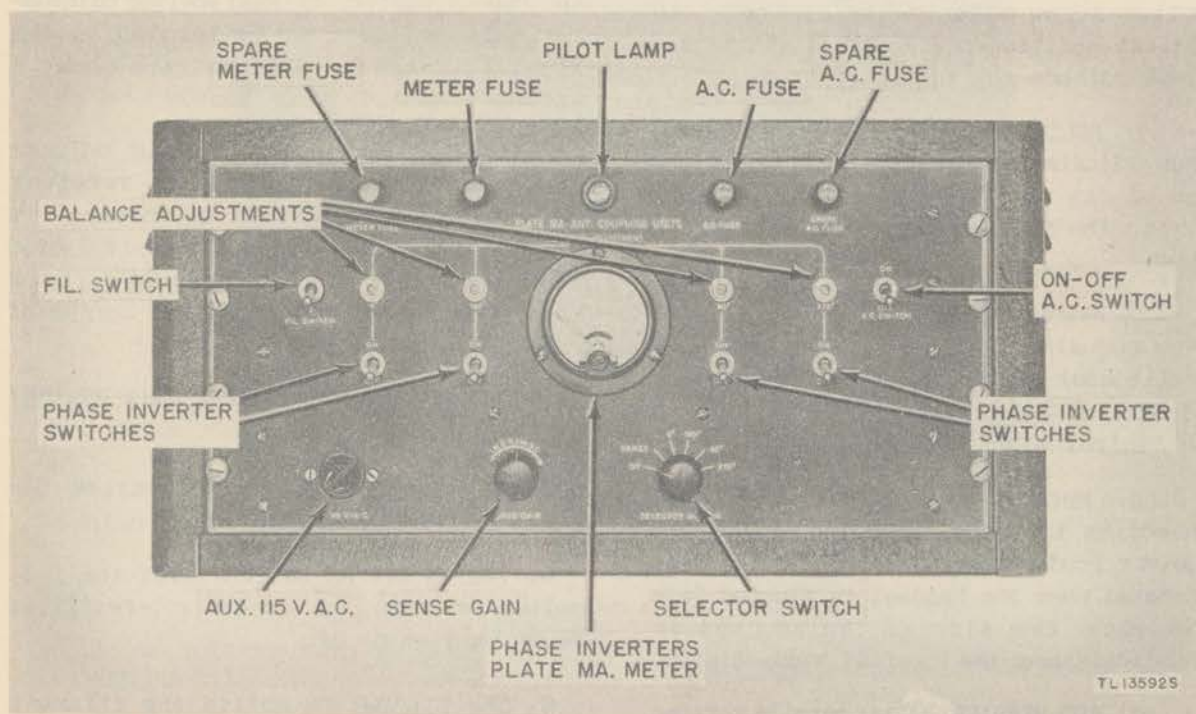

Figure 42. Control-rectifier Power Unit PP-151/CRD-3 panel.
(11) Panel light (I201) indicates that automatic bearing indicator should not be used because RADIO SELECTIVITY is in the BROAD position and bearings taken in this position are in error.
(12) MASTER power switch (S206) controls the a-c input power to the equipment through the other switches on the power indicator unit.
(13) MOTOR power switch (S207) controls the a-c power and lamps in the illuminated scale of the automatic bearing indicator.
(14) BEAM power switch (S208) controls the a-c power to the power supply of the automatic bearing indicator cathode-ray tube.
(15) AMPLIFIER power switch (S209) controls the a-c power to the power supply of the automatic indicator amplifier.
(16) Pilot lamps for switches as listed in subparagraphs (12), (13), (14), and (15) above.
(17) Blanking switch (S204) turns the trigger circuit ON or OFF for blanking the center portion of the receiver cathode-ray tube pattern. It is located on the right-hand side of the chassis about 8 inches from the front panel.
(18) Blanking control (R272) adjusts the amount of blanking of the receiver cathode-ray tube pattern by varying the trigger voltage supply to the control grid of the trigger amplifier tube. It is located on the right-hand front corner of the chassis.
21. CONTROL-RECTIFIER POWER UNIT PP-135/CRD-3 (fig. 42).